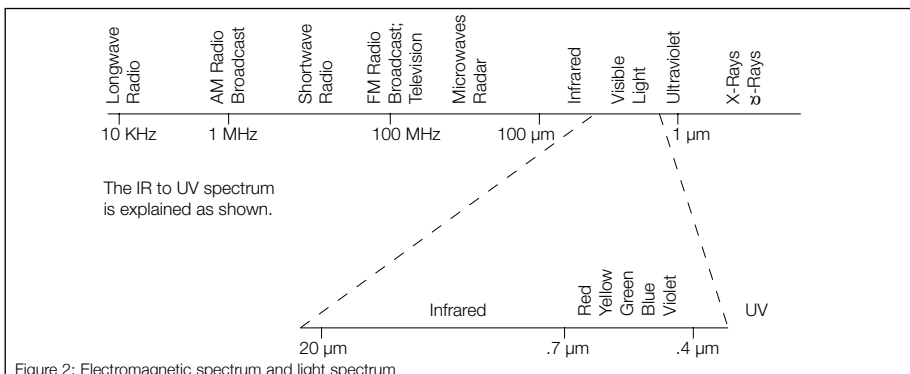
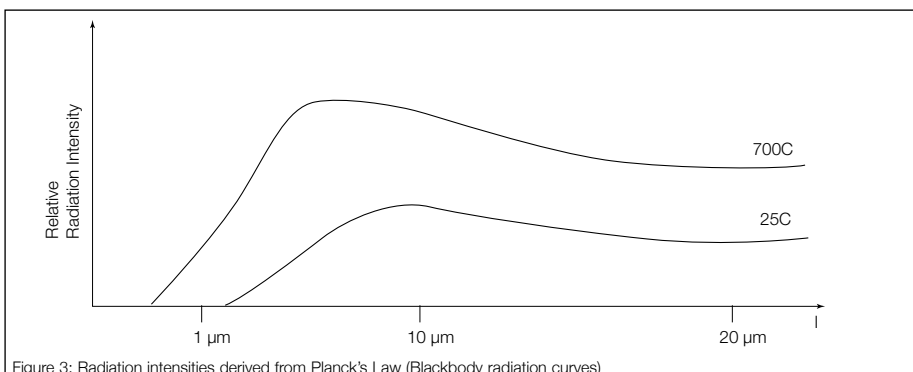

Figure 2: Electromagnetic spectrum and light spectrum
Figure 3: Radiation intensities derived from Planck's Law (Blackbody radiation curves)
Infrared radiation is part of the electromagnetic spectrum which includes radio waves, microwaves, visible light, ultraviolet, gamma- and X-rays (Figure 2). These various forms of energy are categorised by frequency or wavelength.* Note that visible light extends from .4 to .7 micron, with ultraviolet (UV) shorter than .4 micron, and infrared longer than .7 micron, extending to several hundred microns. In practice, the .5 to 20 micron band is used for IR temperature measurement.
The amplitude (intensity) of radiated energy can be plotted as a function of wavelength, based on Planck's law. Figure 3 shows the radiation emission curves for objects at two different temperatures. By convention, longer wavelengths are shown to the right on IR graphs, reverse of electromagnetic spectrum charts, such as Figure 2. The area under each curve represents the total energy radiated at the associated temperature.